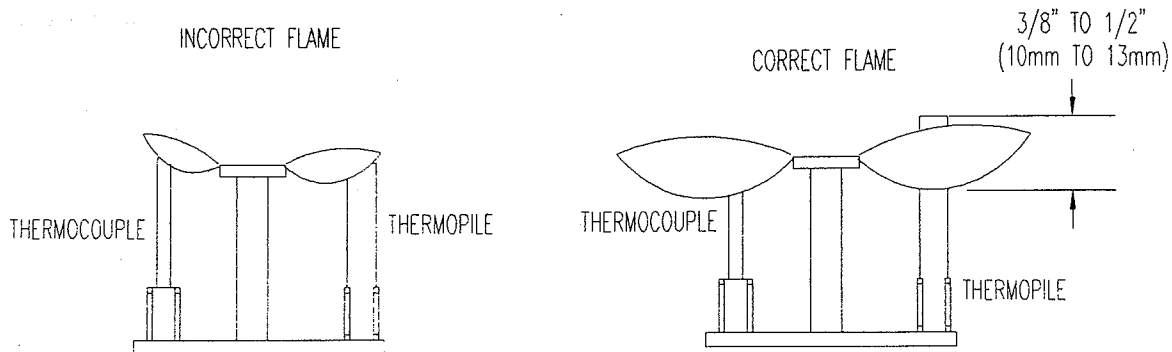

Figure 24
For proper operation, the pilot and main burner flames must be steady and not lifting off or floating. The top $3/8"$ - $1/2"$ (10-13mm) of the thermopile should be engulfed by the pilot flame. The pilot flame adjustment should be performed by a qualified service person only. To adjust the pilot flame, turn the pilot adjustment screw counter-clockwise ← to increase, and clockwise → to decrease the flame. Ensure that the pilot flame completely engulfs the thermopile (see Figure 24).
2. Visually check the burner and pilot flames occasionally. Visually inspect height and colour of flames (see Figure 24).